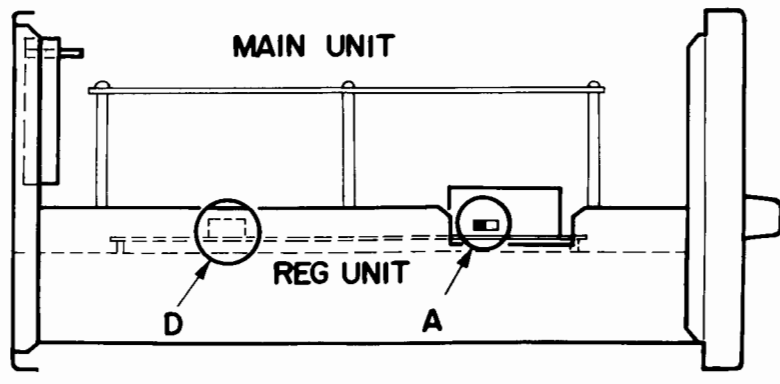
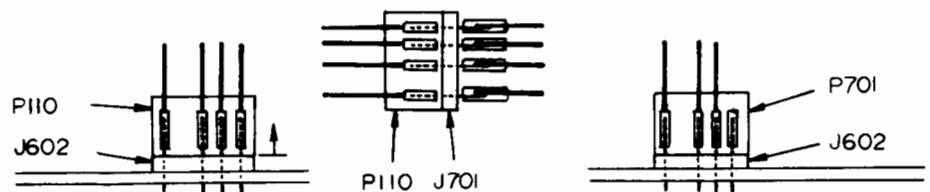

Fig. 14
Fig. 17
Locate the switch marked A in Figure 14. At this switch, there are two marks: H and L. For channel 3, set this switch to L, and for channel 4, set the switch to H. No further adjustment is required.
- (3) Locate 4-pin P₁₁₀/J₆₀₂, marked E in Figures 14 and 17. Also locate J₇₀₁ and P₇₀₁ (from the LOCAL LOOP UNIT). Remove P₁₁₀ from J₆₀₂, and connect P₁₁₀ to J₇₀₁, as shown in Figure 17. Now connect P₇₀₁ to J₆₀₂, as shown in Figure 17.